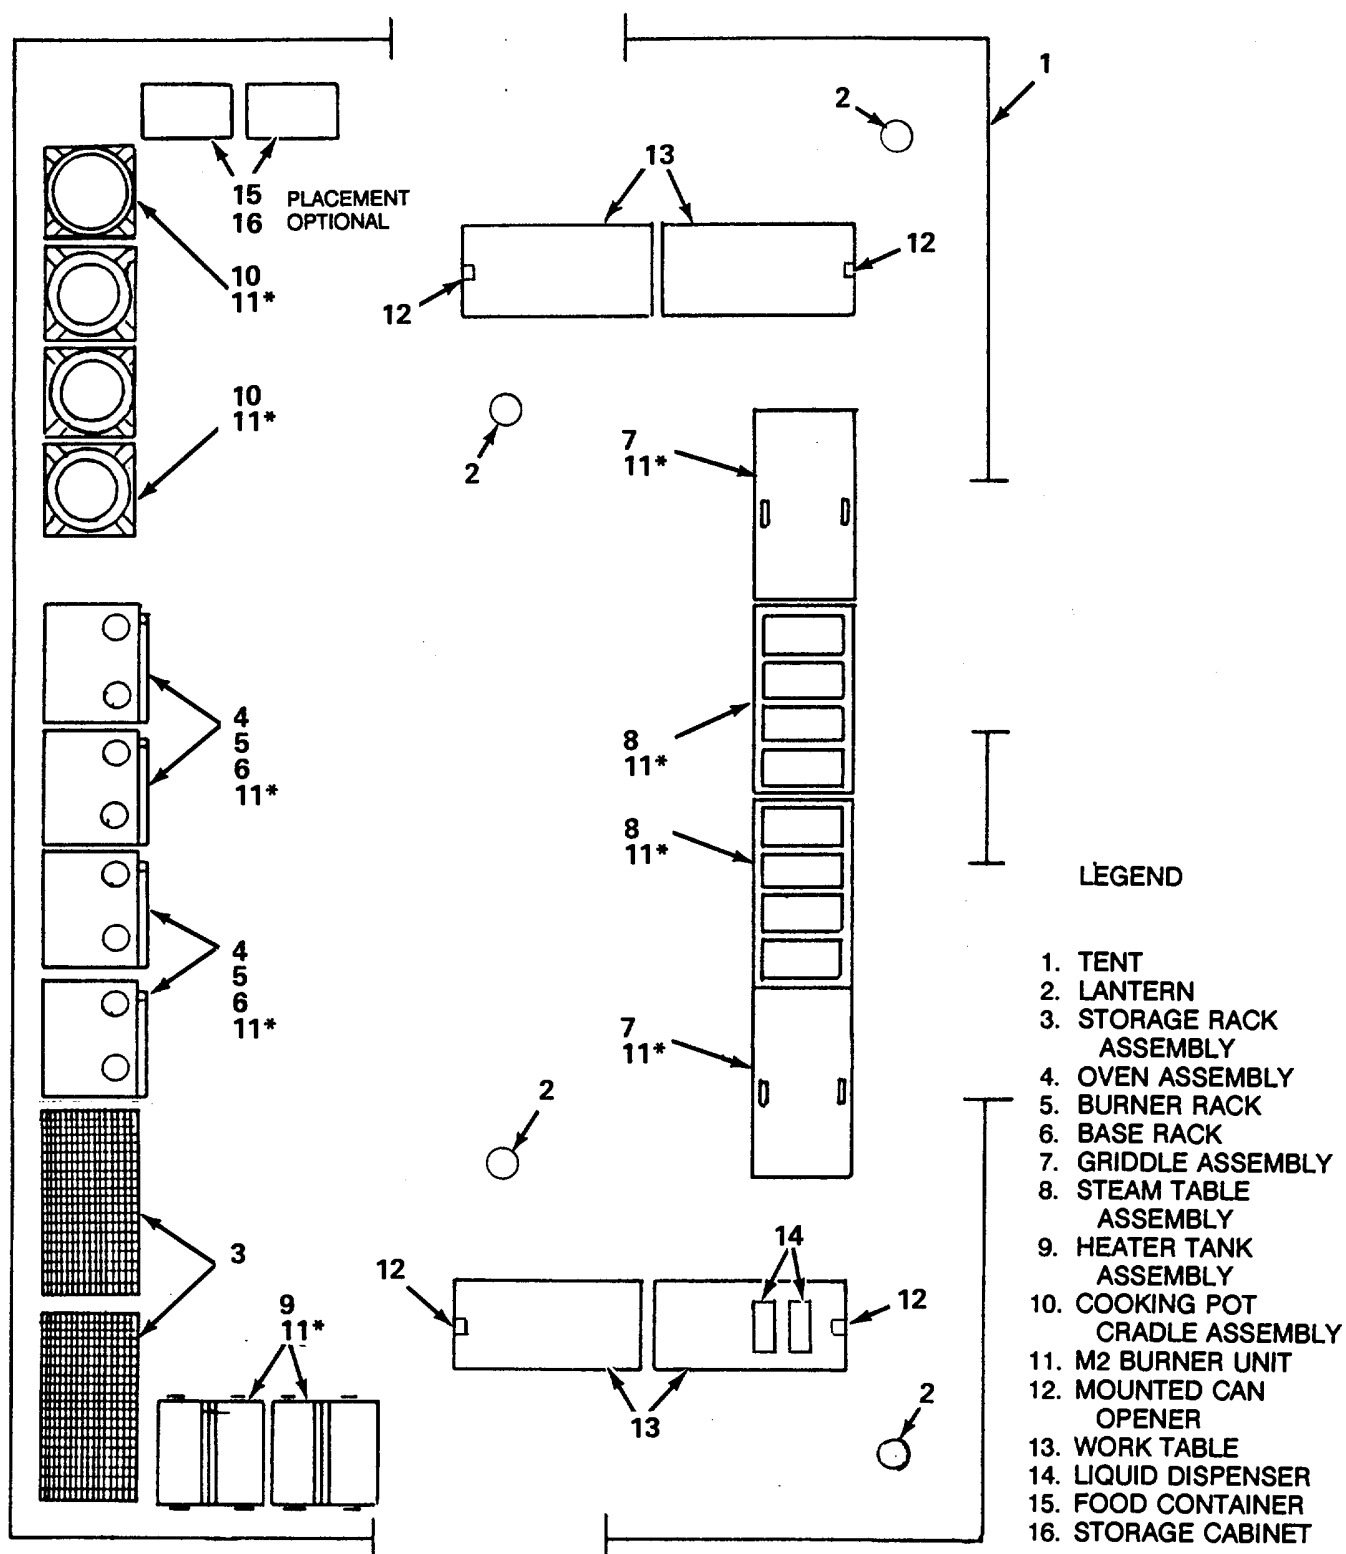

Figure 2-2. Modular Field Kitchen - Optional Configuration, Two MFKs Consolidated
(1) General. When it is required to feed approximately 750 persons, it will be necessary to combine two or three MFK's. Figure 2-2 shows consolidation of equipment from two MFK's in a 48 x 20 foot (14.64 x 6.1 meters) tent. To sanitize the pots, pans and utensils used with three MFK's, two FSCs must be combined. For information on combining two FSCs, refer to TM 10-7360-211-13&P. To operate in the consolidated configurations, the site must be large enough to accommodate the 48 x 20 foot (14.64 x 6.1 meters) MFK area and the 32 x 20 foot (9.8 x 6.1 meters) FSC area.
(b) Assemble and set up remaining equipment in accordance with procedures in paragraph 2-6 and as shown in Figure 2-2. ■